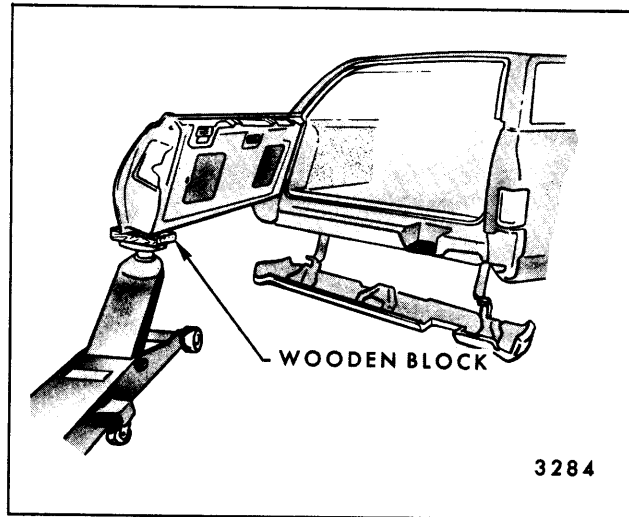

Fig. 9-10—Tail Gate Removal
5. Open tail gate to door position and support free end of gate (Fig. 9-10).